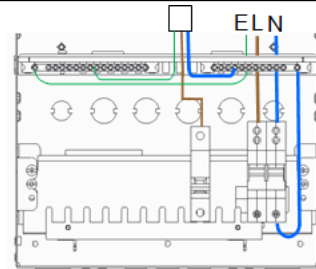

Fig 4.1 Connections to MCB's
- Cut, dress and connect circuit conductors to appropriate MCB, RCBO, neutral and earth terminals. (Figs 4.1 and 4.2)
- Ensure that each neutral outgoing circuit is correctly made to its corresponding numbered terminal (Figs 4.1 and 4.2)